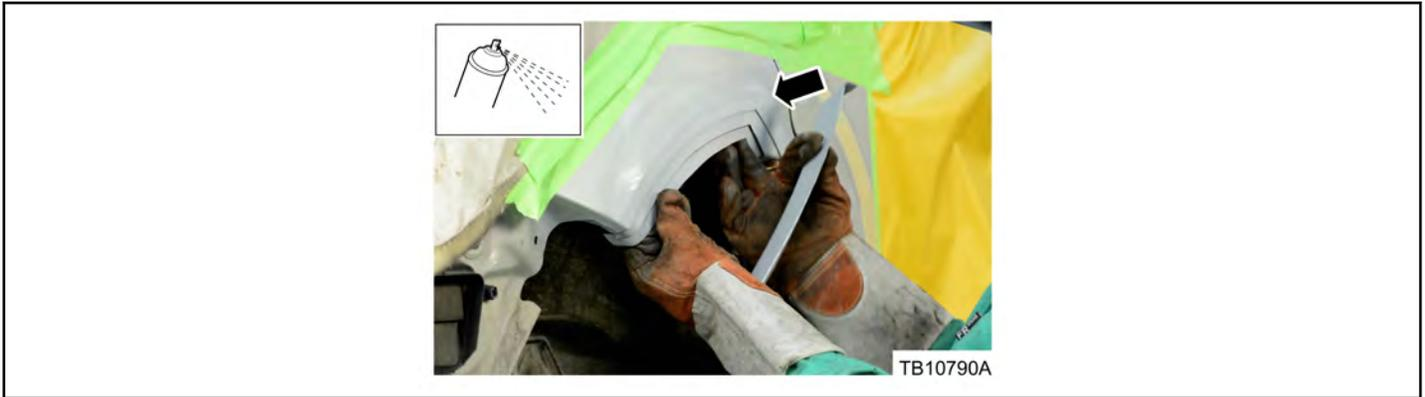

Figure 8 - Article 15-0157
24. Clamp the backer patch panel and inner patch panel onto the inner quarter panel. (Figures 8 and 9)